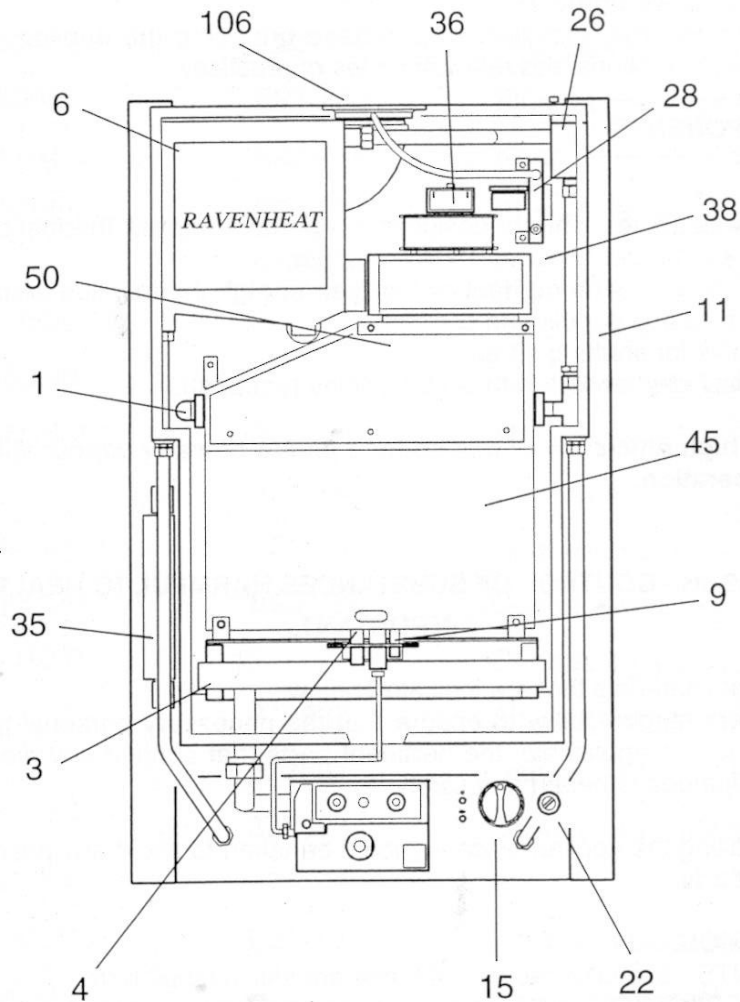

Fig. 1
### **BASIC COMPONENTS - (See figure 1)**
- 1.2.1 Fig. 1 illustrates the general layout of components.